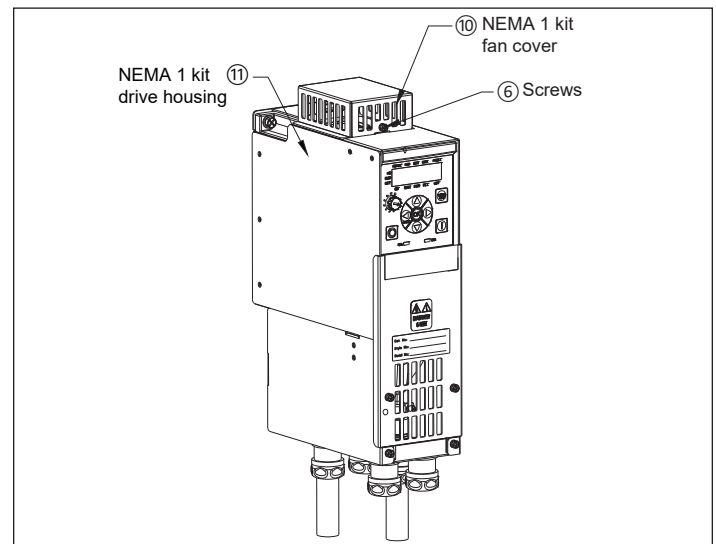

Figure 12. Mounting the fan cover.
Mount the NEMA 1 kit fan cover ⑩ back to the NEMA 1 kit drive housing ⑪ with screws ⑥ (see Figure 12).